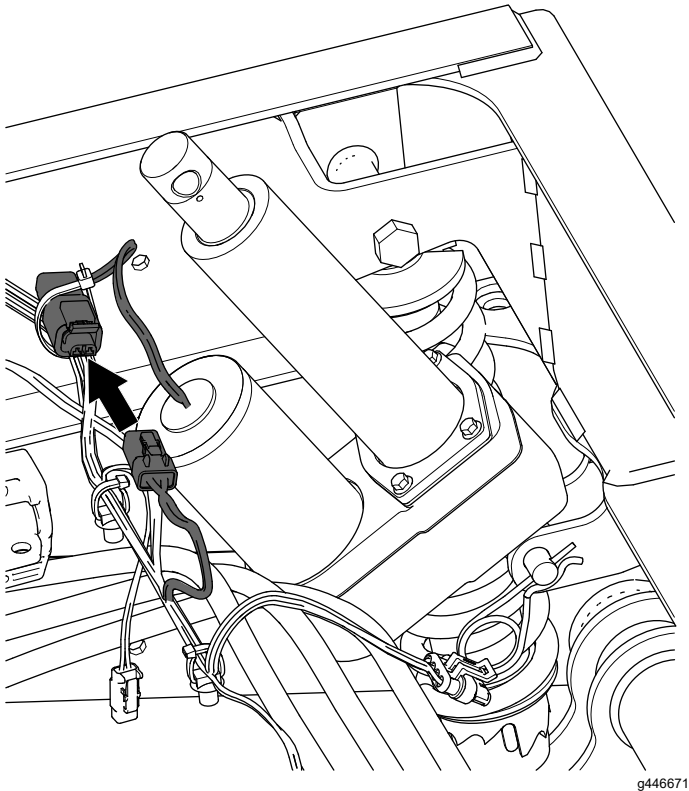

Figure 11
3. Connect the 2-socket electrical connector of the rear wire harness of the machine to the 2-pin connector of the lift actuator (Figure 11).